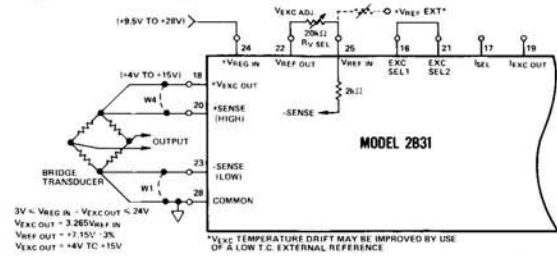

Figure 2. Constant Voltage Excitation Connections
**Voltage Excitation Programming:** Pin connections for a constant voltage output operation are shown in Figure 2. The bridge excitation voltage, VEXC, is adjusted between +4V to +15V by the 20kΩ (50ppm/°C) RVSEL potentiometer. For ratiometric operation, the bridge excitation can be adjusted by applying an external positive reference to pin 25 of the 2B31. The output voltage is given by: VEXC OUT = 3.265VREF IN. The remote sensing leads should be externally connected to the excitation leads at the transducer or jumpered as shown in Figure 2 if sensing is not required.